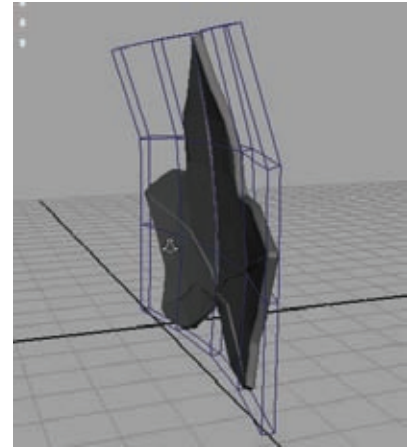

Figure 2.6
8. Right-click the lattice and select Lattice Point from the marking menu that appears to activate component mode and gain access to the lattice's points. Manipulate the lattice points to bend the leaf into a concave shape like in Figure 2.6.